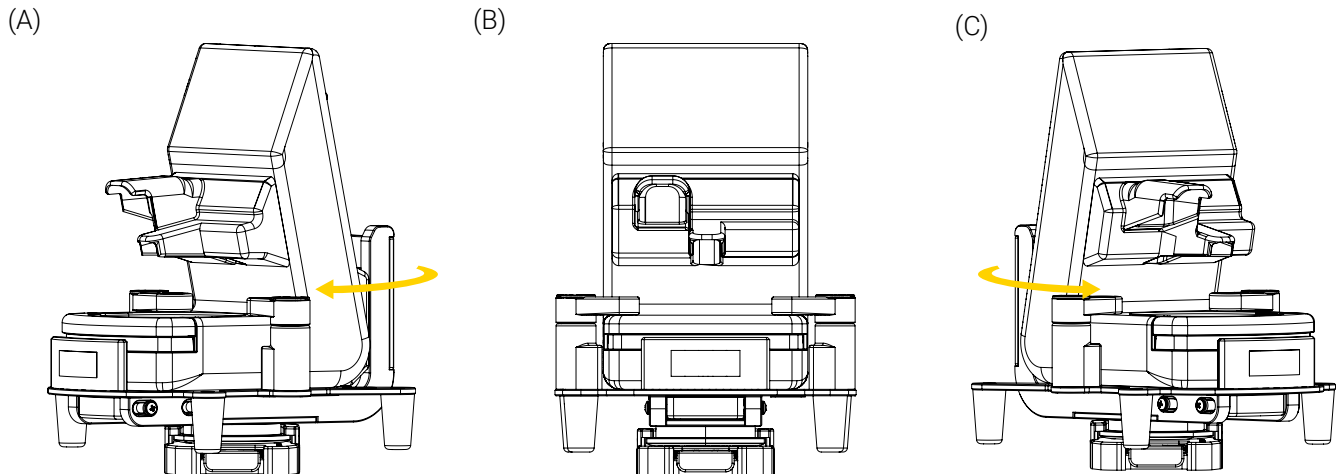

Figure 15: Operating the support bracket with a bottom micro disc
3. For a support bracket with a bottom micro disc, turn the bracket clockwise or counterclockwise to the desired position (Figure 15).